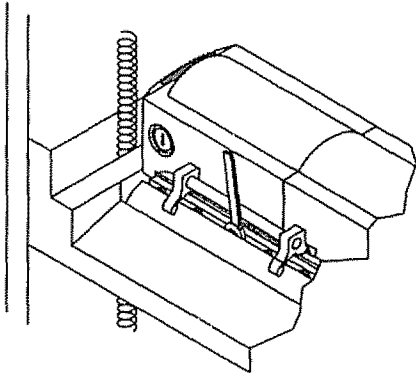

Figure 6 - Adjusting Blade Height
Refer to Figures 6, 8 and 9, pages 7, 14 and 16.
Refer to Figures 6 and 8, pages 7 and 14.
- Hold knife gauge assembly against cutterhead so contact point is over the blade (see Figure 6)
Refer to Figures 6, 7, 8 and 9, pages 7, 12, 14 and 16. Planer will operate best if kept in good condition and properly adjusted. Blades must be kept clean and sharpened to ensure quality of cut and efficiency of operation.
- Remove blades one at a time. Hold blade with knife gauge (see Figure 6). Loosen locking bolts and remove blades.